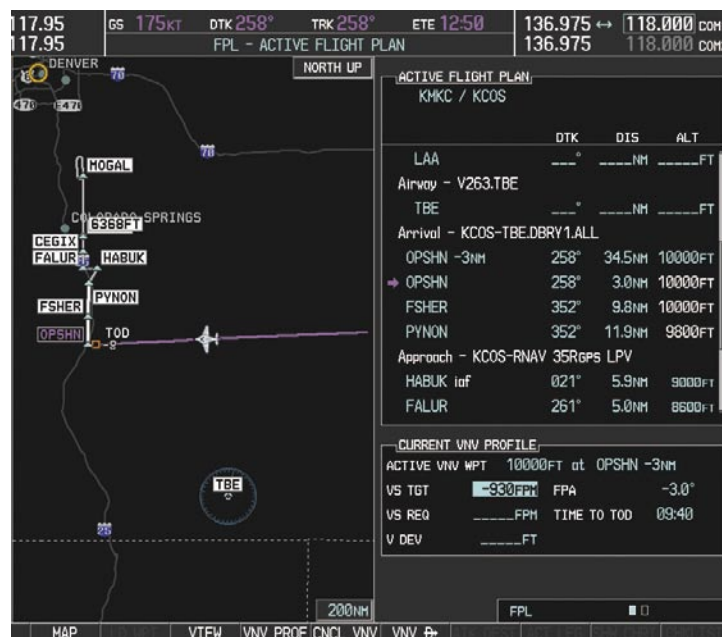

Figure 5-124 Adjusting the Descent
- Select the **VNV PROF** Softkey to place the cursor in the target vertical speed field (VS TGT) as shown in Figure 5-124.